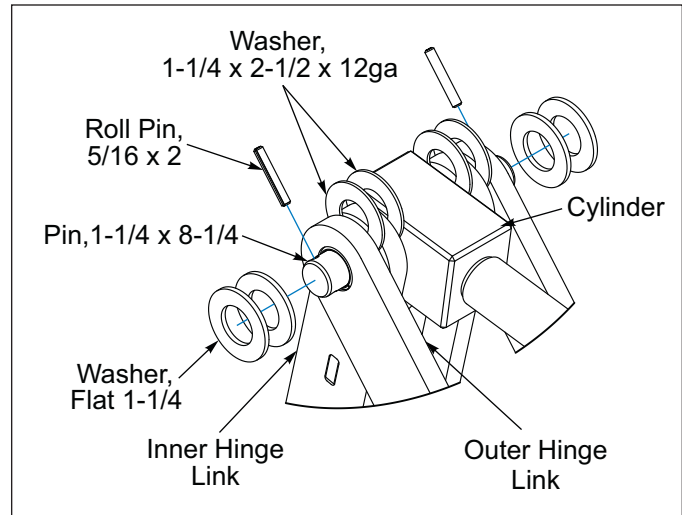

Figure 2-44: Inner and Outer Hinger Link
5. Swing the Inner and Outer Hinge Links together along with the Hydraulic Cylinder Rod End Clevis. Place a 1-1/4 x 2-1/2 x 12ga Thrust Washer between each component and insert 1-1/4 x 8-1/4 Pin through them. **See Figure 2-44.** Add 1-1/4 Flat Washers on each end of the Pin. Secure with 5/16 x 2 Roll Pin.